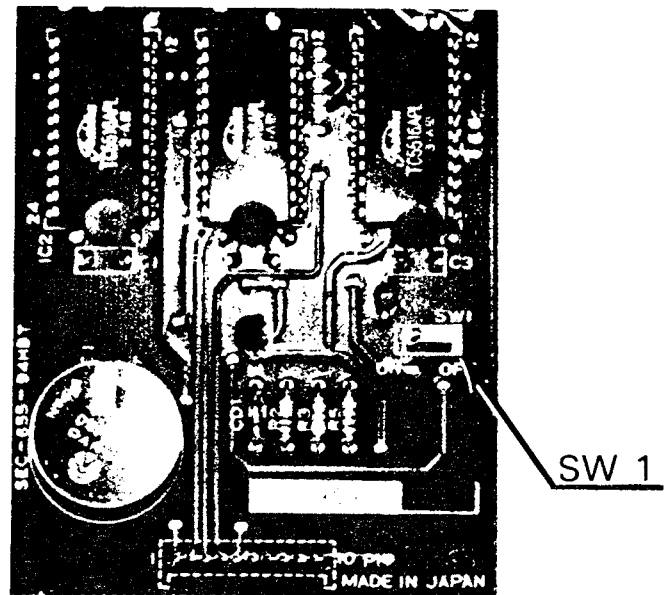
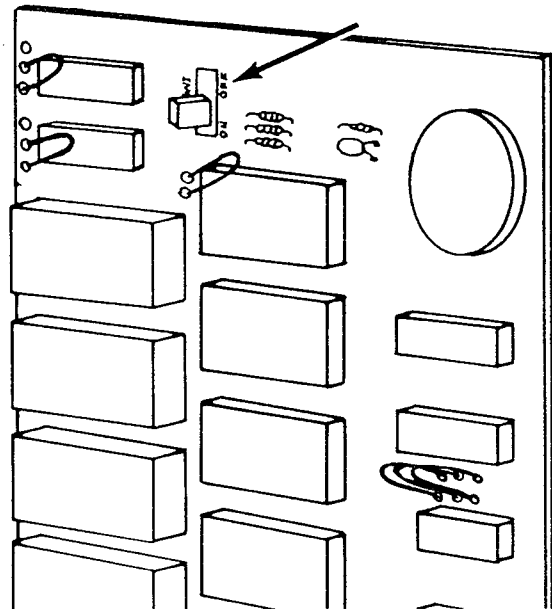
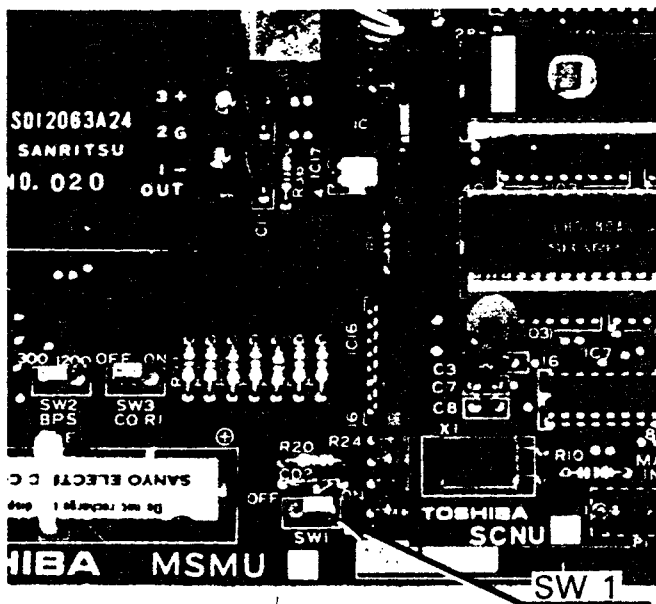

FIGURE 1—CRDU BATTERY STRAP
FIGURE 2—AMMU BATTERY STRAP
FIGURE 3—MSMU BATTERY STRAP
02.05 Whenever storing or shipping a CRDU, AMMU or MSMU always ensure that the battery strap is in the OFF position. See Figure 1 for the CRDU, Figure 2 for the AMMU, Figure 3 for the MSMU.